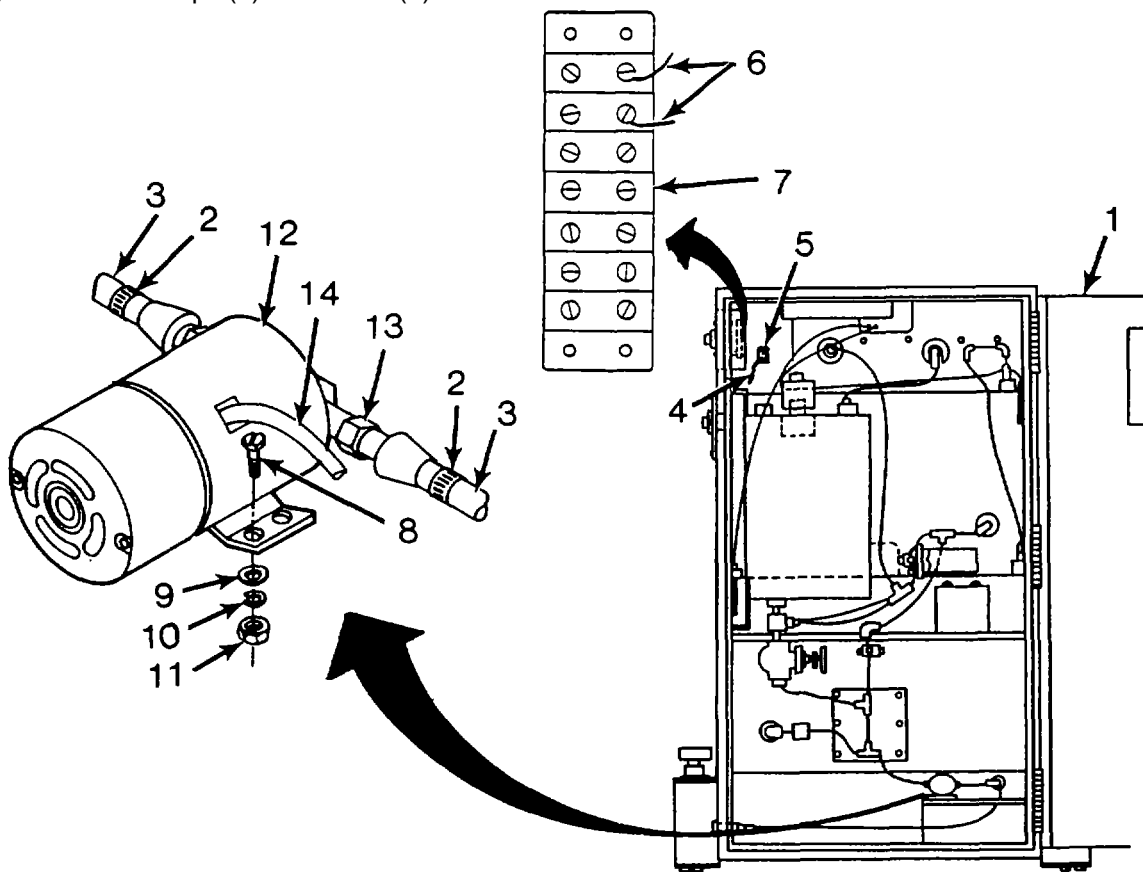

Figure 4-20. Replace Drain Pump
c. Repair by replacing Drain Pump. (Figure 4-20.)